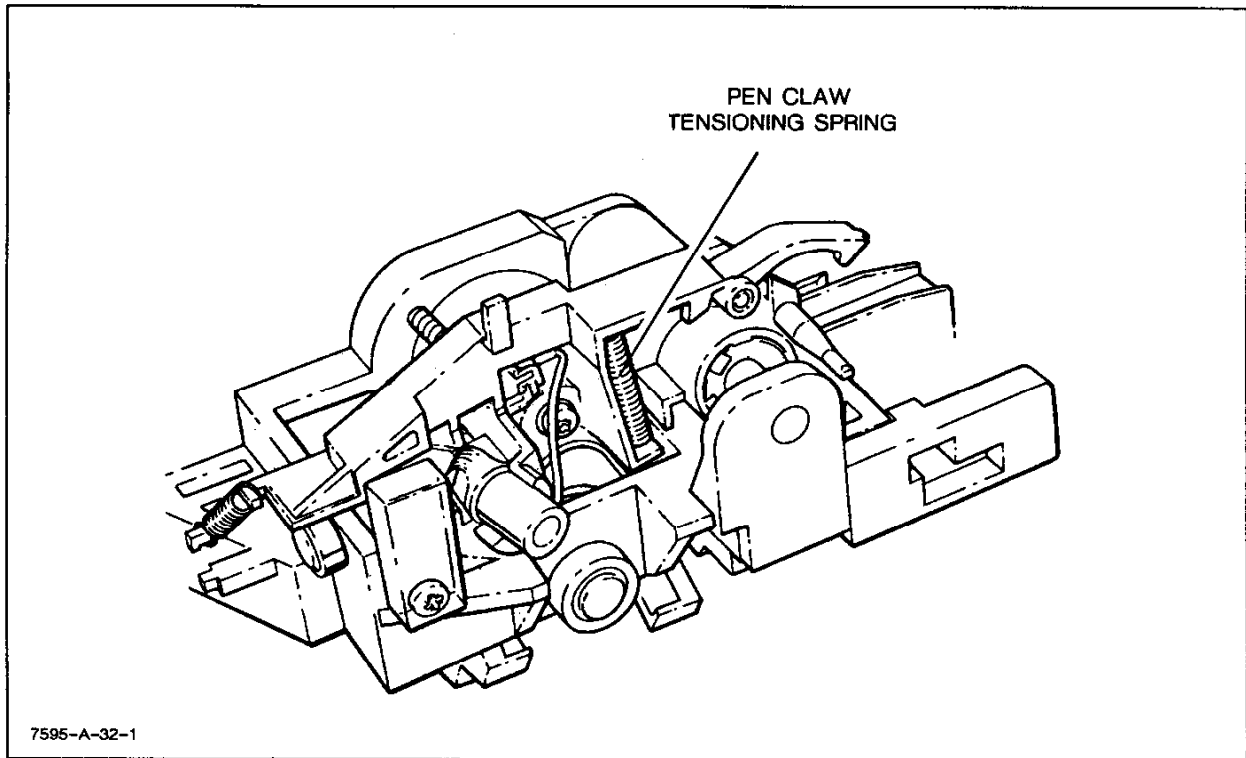

Figure 6-23. Pen Claw Removal
- a. Turn the plotter line switch to OFF (O) and disconnect the ac power cord.
- g. Remove the pen claw tensioning spring from the bottom of the pen carriage by compressing the spring at the end closest to the pen claw with a small flat-blade screwdriver. See Figure 6-23.